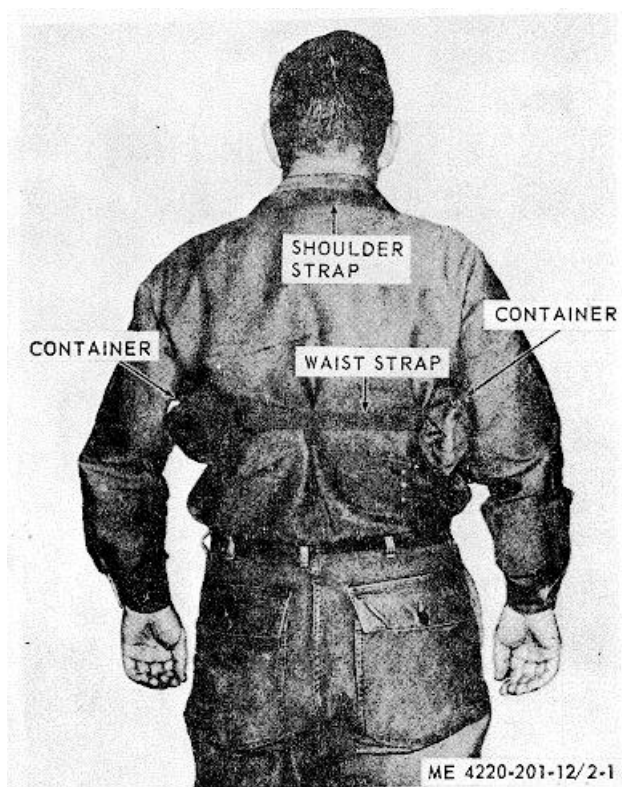

Figure 2-1. Type B-7 underarm life preserver, rear view.
- a. Adjust the position of the flotation cell containers on the waist strap so that a container will be directly beneath each armpit (fig. 2-1).
- c. Adjust the strap so that the containers fit snugly under the armpits (fig. 2-1).